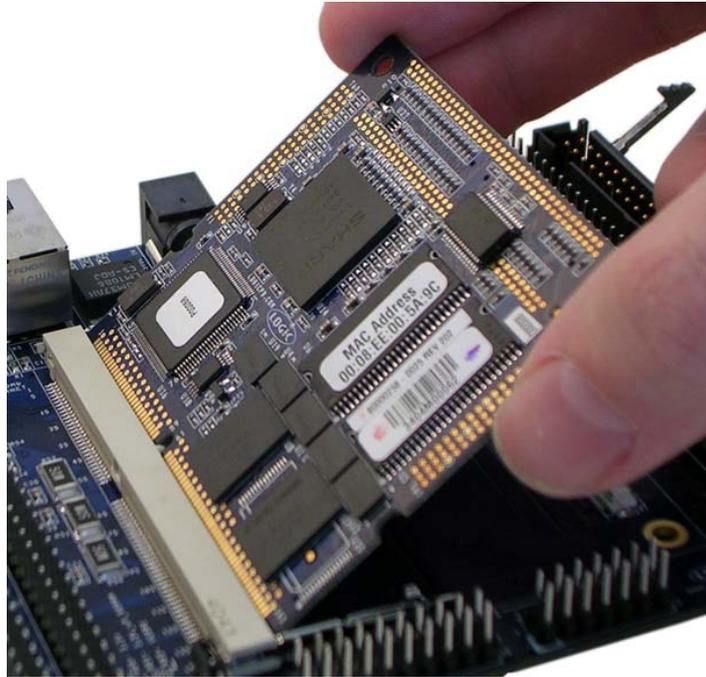

Figure 7 – Remove Card Engine from SODIMM Connector
4. Remove the Card Engine from the SODIMM connector (see Figure 7).